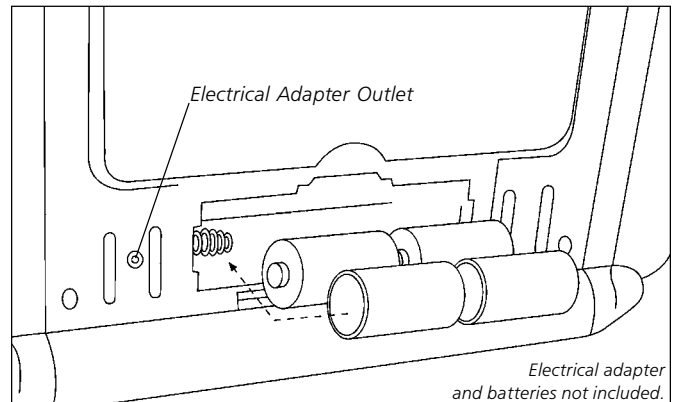

Figure 2
- Installation of 4 D-cell batteries is required for fan operation. Battery box is located on lower back panel of heater. Follow instructions on battery cover for correct battery installation. See figure 2.
- Heater can also be powered by electrical adapter. Required adapter to be 6 volt DC up to 800 milliamp current with positive tip polarity. See figure 2.